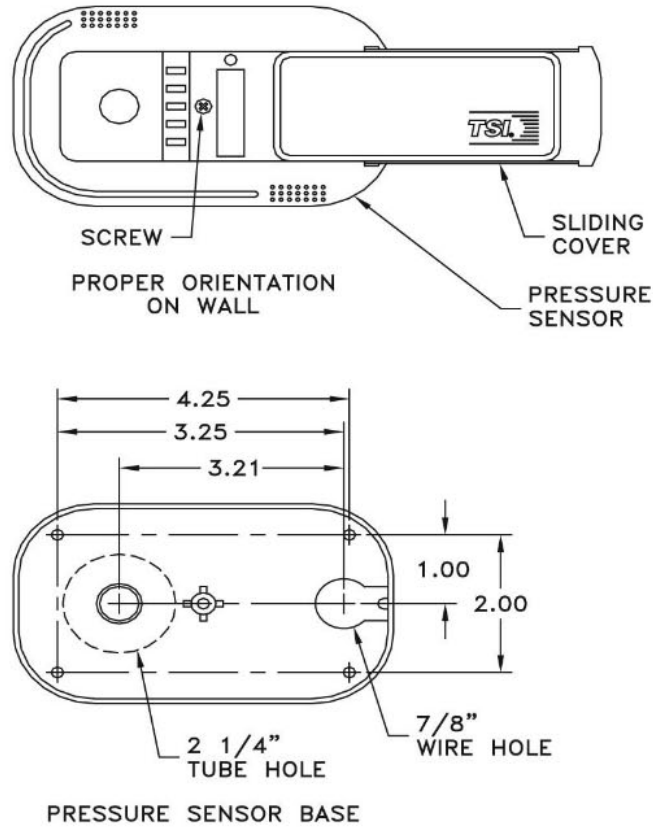

Figure 2: Pressure Sensor Orientation and Mounting Template
WARNING: 800326 pressure sensor must be mounted through the wall between the controlled space (laboratory) and referenced space (hallway), exactly as shown in Figure 2 and 3.
2. The pressure sensor must be orientated on the wall as shown in Figure 2. Looking at the mounted sensor, sensor hole is on the left (2¼") and wire hole is on the right.
4. Drill a 7/8 inch hole on the side of the wall that the pressure sensor will be mounted. This hole is for the six-conductor sensor cable. Refer to Figure 2 for a hole mounting pattern.
5. Slide sensor cover to right and remove screw that holds the sensor base to the pressure sensor (Figure 2). Remove pressure sensor and store in a safe place.